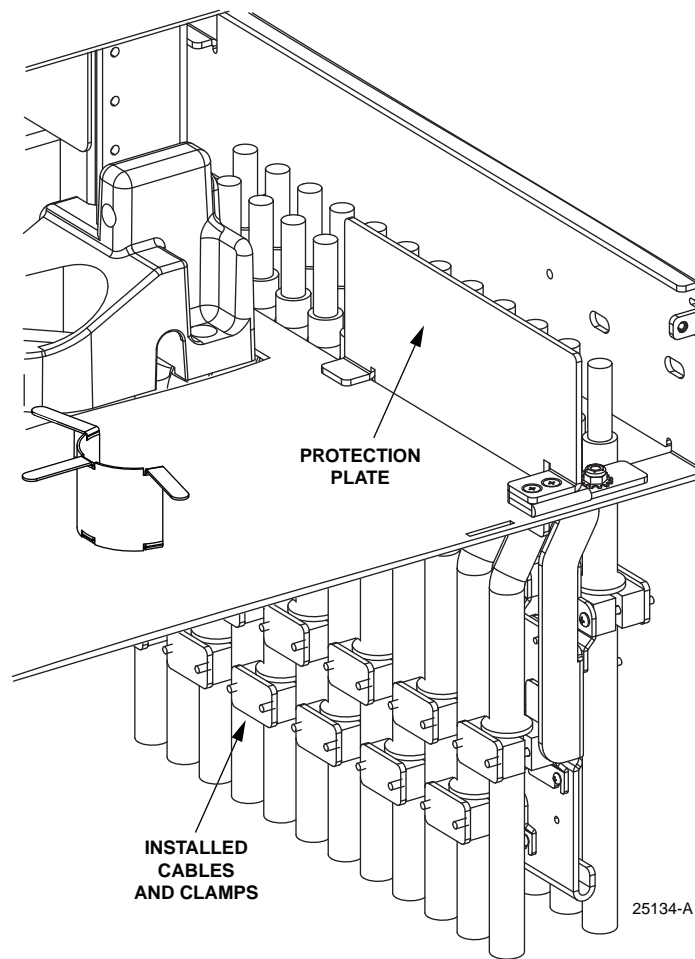

Figure 46. Installing Bracket in Frame
1. Install the protection plate (second largest piece in the Raised Floor Standard Cable Clamp Bracket Kit) in the location shown in Figure 46. Secure the plate using the mounting screws provided. Torque to 16 in.-lbs. (1.8 Newton meters).